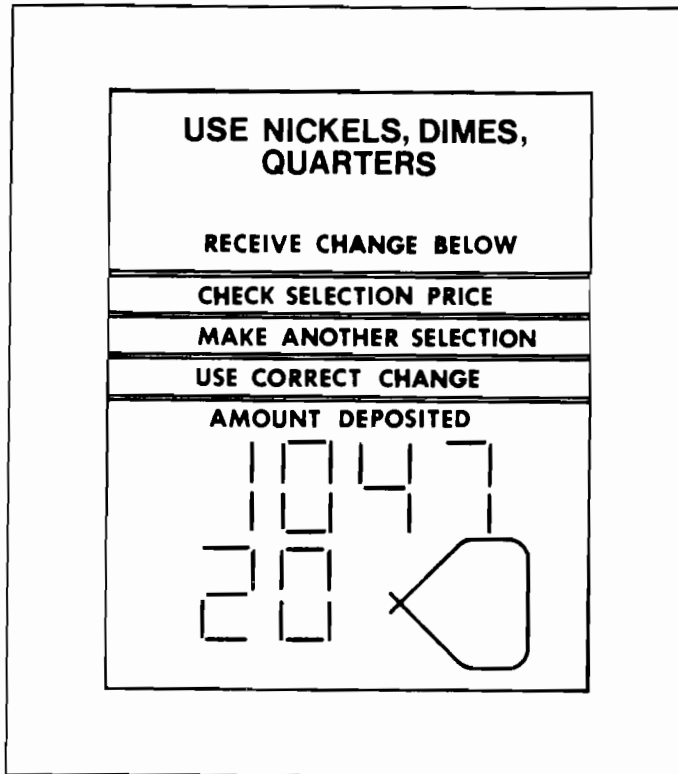

Figure 19. SHOWING A SERIAL NUMBER OF 104720
- B. Change or enter a new whole number by pressing the panel numerals. Numeral #10 equals 0 (Figure 19).